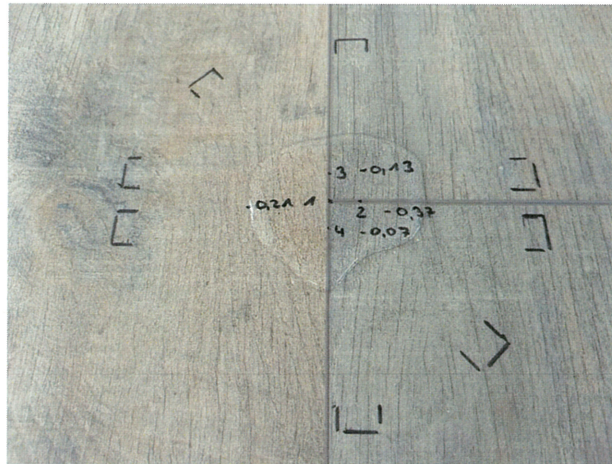

Figure 6: Final arrangement for testing the effects of water on the surface
9. Apply 10 ml of room temperature distilled or deionized water to the marked T-piece. See Figure 6.